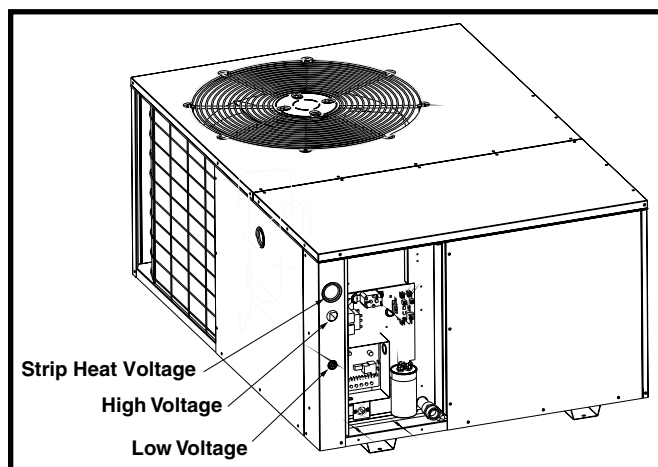

Figure 7. Power Entry
- Connect the line-voltage leads to the terminals on the contactor inside the control compartment. Extend leads through power wiring hole. See Figure 7. Connect L1 & L2 directly to the contactor.